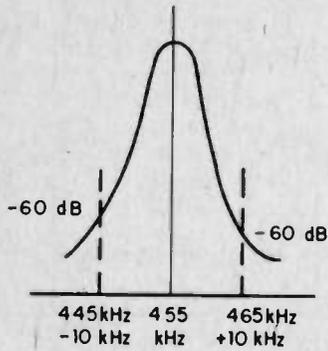

Fig. 10. IF response for AM reception covers both sidebands.
**Selectivity.** The receiver's adjacent channel rejection, known as *selectivity*, is determined, as previously stated, by the IF amplifier; the exact degree of selectivity is determined by the number and type of tuned circuits, mechanical or crystal filters, etc. In a typical AM receiver the carrier signal, which is the modulated IF output from the mixer, is positioned in the center of the IF selectivity passband so the adjacent channel on each side of the desired signal receives the same degree of attenuation. See Fig. 10 for the selectivity curve of a typical high-performance receiver. Note that unwanted signals  $\pm 10$  kHz from the center (IF) frequency are attenuated 60 dB. In a receiver without some form of high selectivity device such as a mechanical filter, the signals from adjacent channels might be attenuated only 20 to 30 dB.